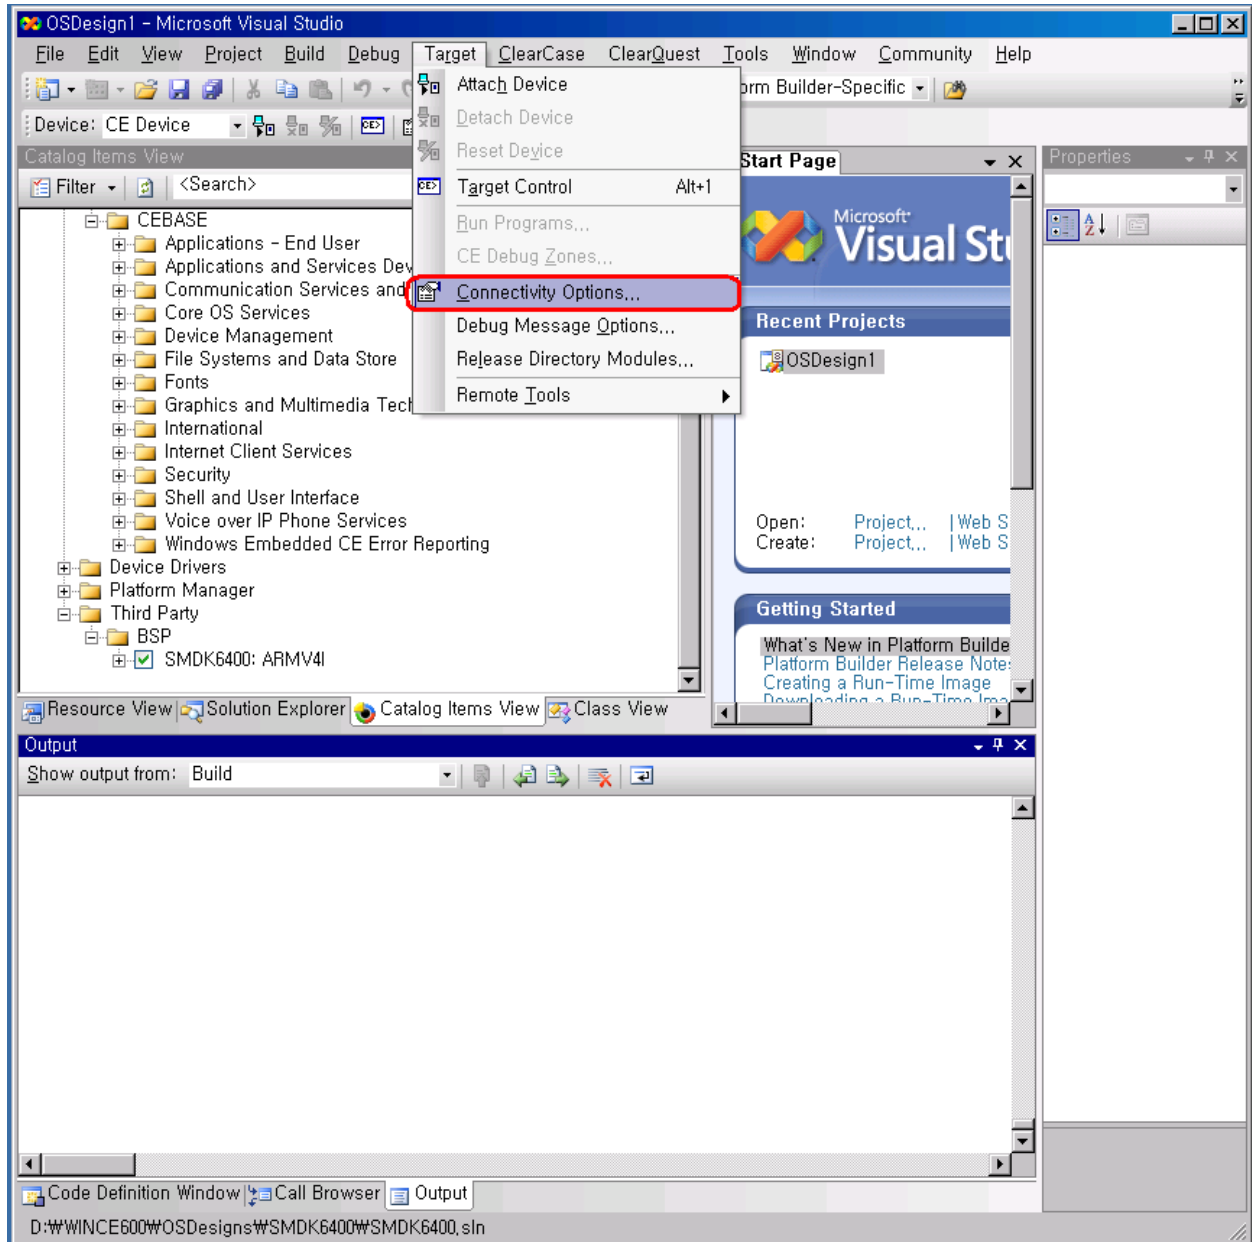

Figure 7-17 Target Connectivity Option
- On the Target menu in the Visual Studio 2005 window, click **Connectivity Options...** as shown below. Target Device Connectivity Options window appears on your screen as shown in figure 7-17.